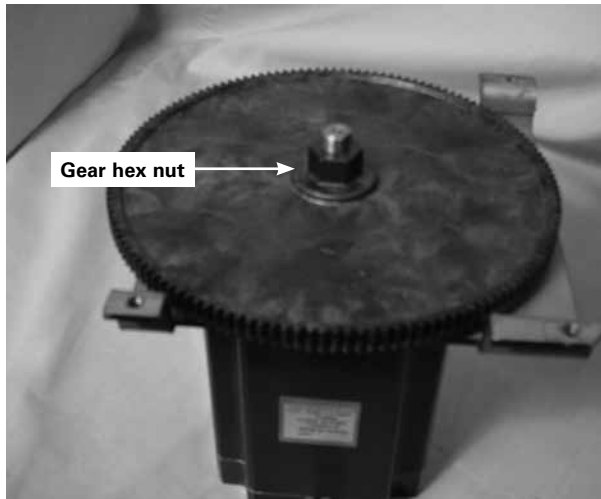

**Figure 13. Motor bracket alignment**
14. Position the motor bracket onto the motor. Be sure to orient the bracket with wires facing in the direction of the right-side mounting ears as show in Figure 13.